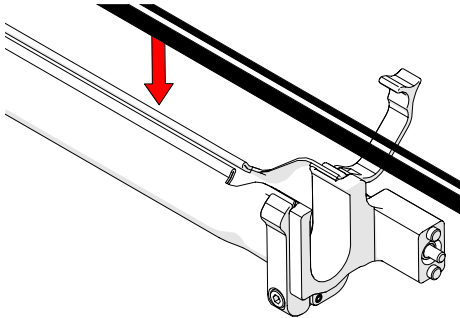

Fig. 163 - Insert cables and hoses
1. Open the HT cable management sleeving. Begin at the clamp end and start placing the cabling in the sleeving (Fig. 163).